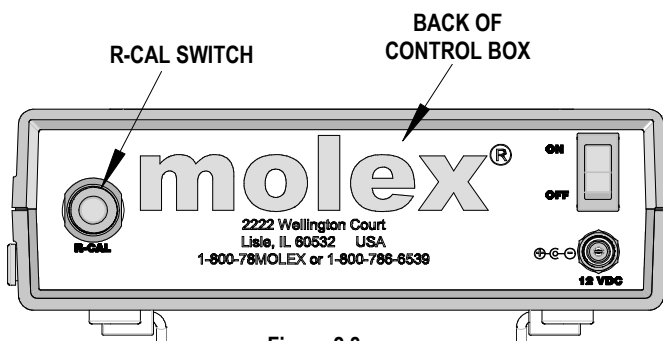

Figure 2.8
7. Press the *R-Cal button* on the back of the unit. Press the *display reset button* to zero the display. Repeat this process several times to assure a repeatable value. See Figure 2.8